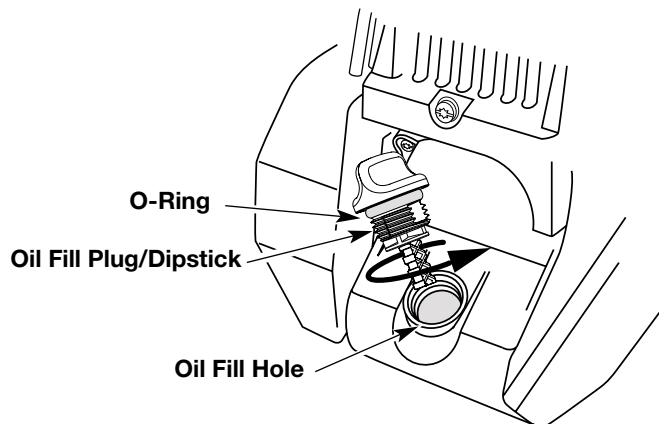

Fig. 5
3. Remove the oil plug / dipstick from the crankcase (Fig. 5).